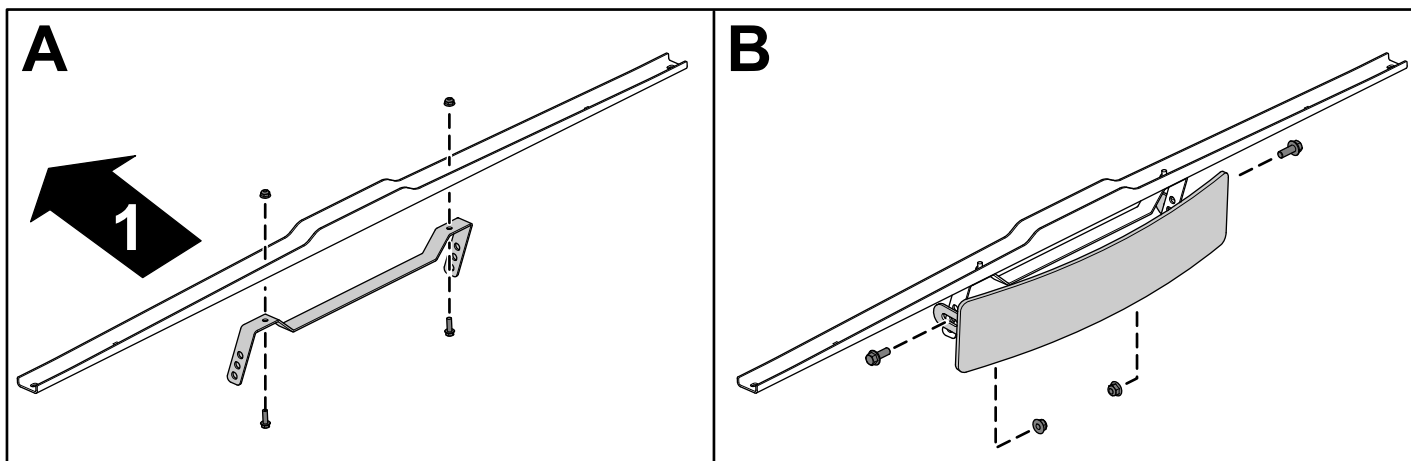

Figure 2
1. Secure the mirror mount to the canopy support bracket using the 2 machine bolts (1/4 x 3/4 inch) and 2 flange nuts (1/4 inch) as shown in A of Figure 2.
2. Secure the wide-angle mirror to the mirror mount using the 2 flange-head bolts (3/8 x 1 inch) and 2 locknuts (3/8 inch) as shown in B of Figure 2.